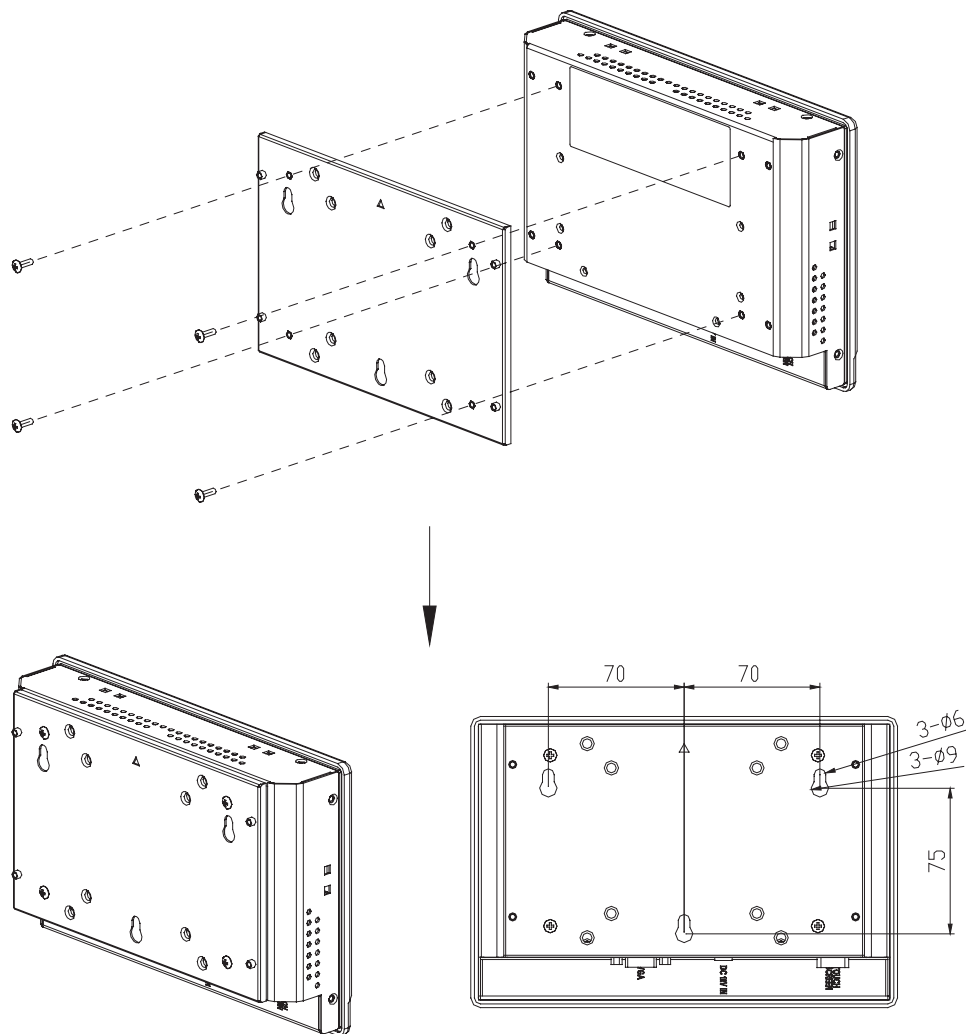

Figure 2.1: Wallmounting
Please refer to figure 2.1 and follow the steps below to install FPM-3060G on a wall. The wallmounting kit is optional.
2. Screw three screws on the wall with the dimensions used in Figure 2.1.